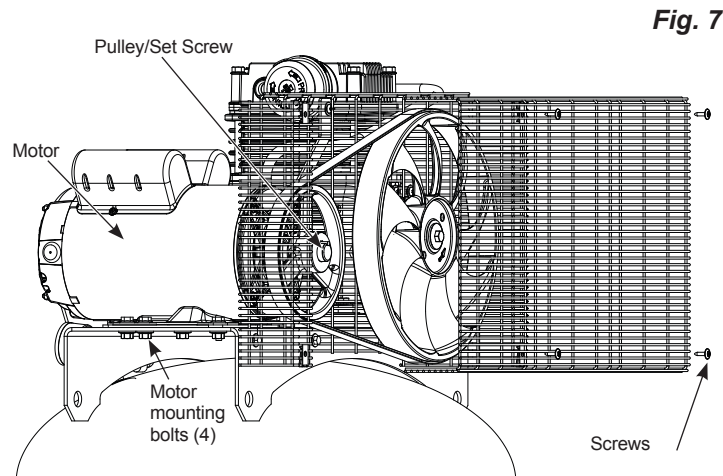

Fig. 7
1. Remove the front of the beltguard by removing the screws. (See **Fig. 7**)
4. Retighten the motor mounting bolts to 20-25 Ft-Lbs. (See **Fig. 7**)
1. Remove the front belt guard by removing the screws. (See **Fig. 7**)